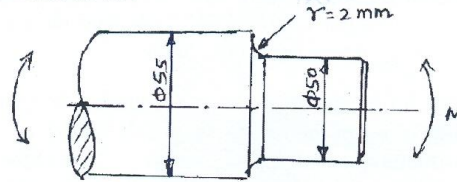

Fig.Q6(c)
- c. A stepped shaft shown in Fig.Q6(c) is made of alloy steel with an ultimate tensile strength of 700 MPa. It is subjected to a constant amplitude rotating bending. Estimate the magnitude of the bending moment which can be applied such that failure does not occur in  $10^6$  cycles. Take notch sensitivity index as 0.9.